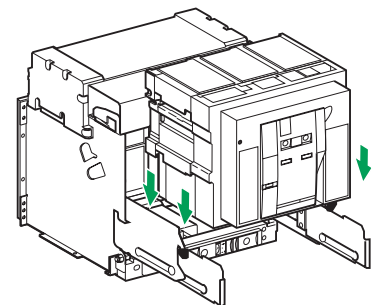

Fig. 34
- Position Masterpact/Easypact on the rails (see Fig. 34).